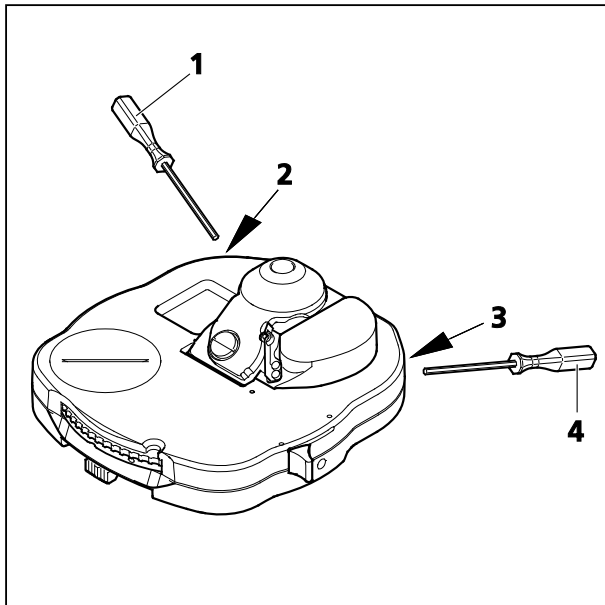
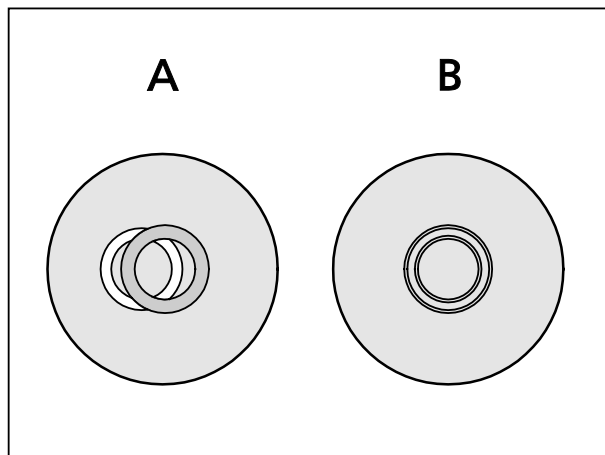

Fig. 195 Centering the phase stop on the universal condenser
Fig. 196 Centering the phase stop (bright ring in condenser) to the phase ring (dark ring in objective)
- If there is not perfect congruence (Fig. 196/A), use the two SW 1.5 screwdrivers (Fig. 195/1 and 4) to turn the two centering screws (Fig. 195/2 and 3) to recenter the bright phase stop until complete congruence with the dark phase ring is achieved (Fig. 196/B).
Perfect phase contrast is only achieved if the bright phase stop (in the condenser) and the dark phase ring (in the objective) are exactly congruent in the illumination beam path (Fig. 196/B).